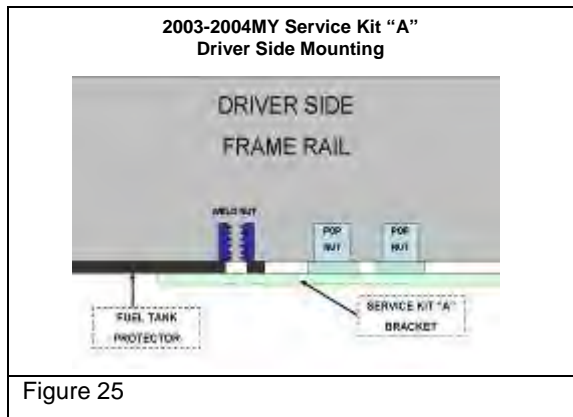

Figure 25
19. Install the driver side reinforcement bracket using the new hardware provided in the bracket kit. The required parts will vary depending on vehicle model year and frame design. Use Figure 25 for reference to correctly install the driver side bracket.